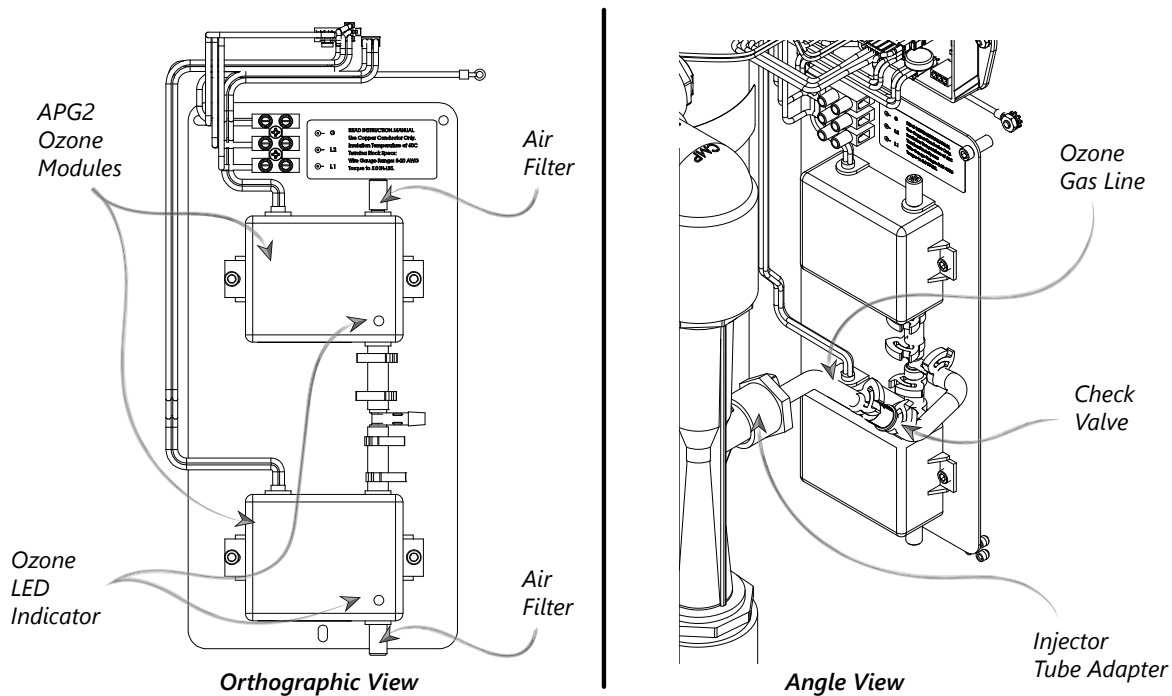

Figure 11: Ozone Generator System Overview
The air entering the ozone modules passes through the air filter (refer to Figure 11) on each module inlet. The filter is held in place by the rubber filter cap.
3. Orient ozone gas line as shown in Figure 11. Re-connect it on both ends and clamp tight.
3. Install new ozone air filter (P/N 9-0858-01) on ozone generator air barb as show in Figure 11.